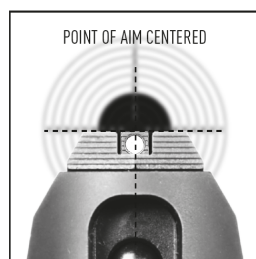

Figure 25: Sight/target alignment
PLEASE NOTE! The sights are factory-installed by STEYR technicians, and the pistol is carefully sighted-in. STEYR ATd sights can only be replaced or drift-adjusted by an experienced armorer or a qualified STEYR specialist. Figure 25 shows the correct alignment of the sights, while the following table displays the most common aiming errors and resulting points of impact.
2. Properly align the sights and acquire correct sight picture (Figure 25).